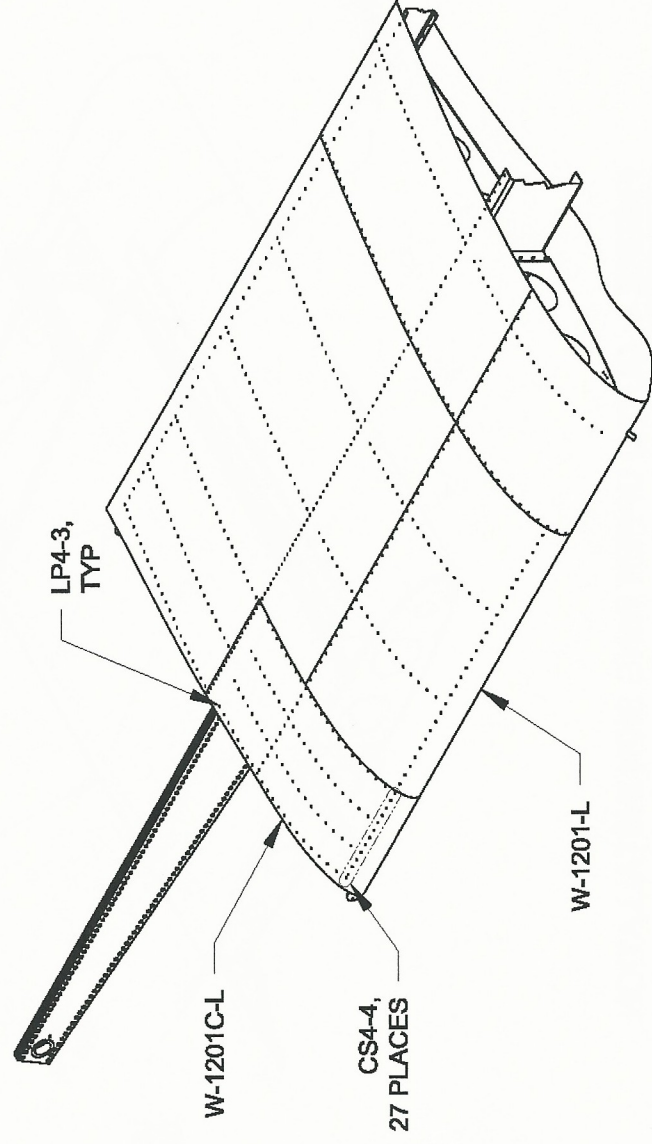

FIGURE 2: ATTACHING WING WALK DOUBLER
Step 3: Cleco the W-1201C-L Wing Walk Doubler to the wing as shown in Figure 2. Begin clecoing at the forward/lower edge of the wing walk doubler and progress up and aft. Cleco the remaining portion of the W-1201 Inbd Wing Skin to the wing skeleton. Rivet the wing walk doubler and inbd wing skin to the wing. Be sure to use flush-head rivets in the dimpled holes as called-out in Figure 2.